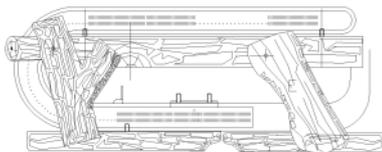

Figure 10 -Installing Log Set (Top View)
**IMPORTANT:** Make sure log does not cover any burner ports (see Figure 10).